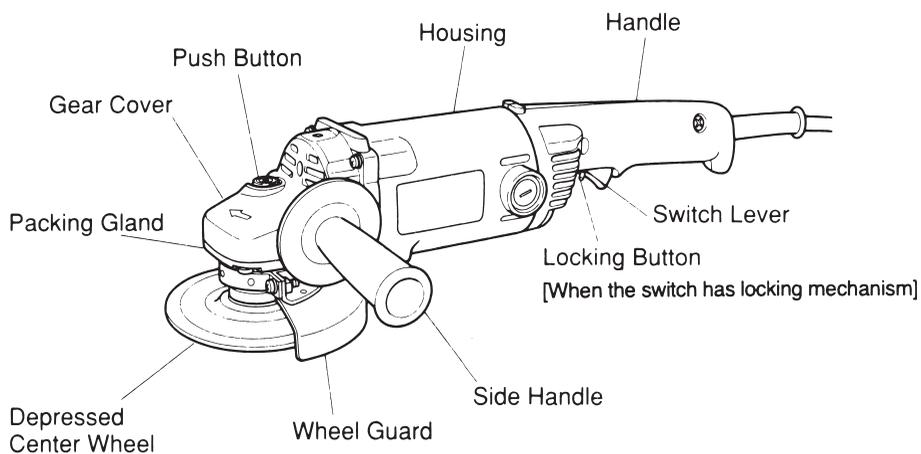

Fig.1
1. Hold the grinder firmly by its body handle and side handle (Fig.1)